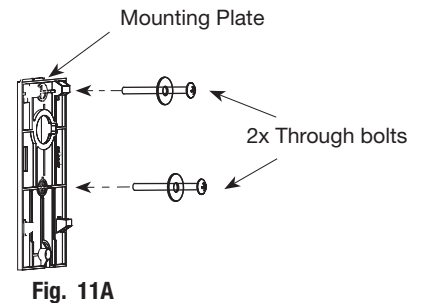

Fig. 11A
1. Install washers onto both through bolts, Fig. 11A. Insert the through bolts through the upper and lower holes of the mounting plate.